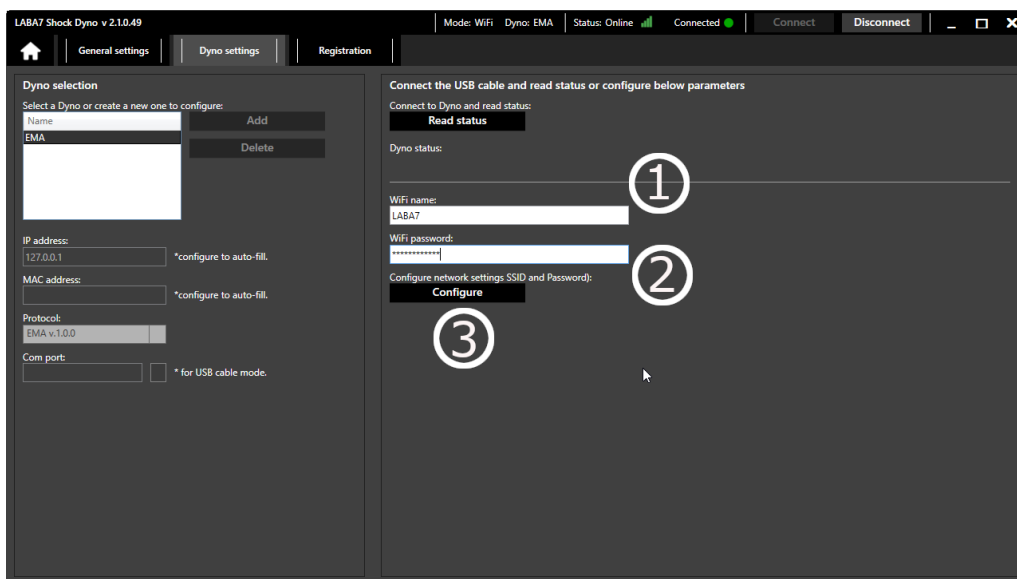

Figure 15
3. Enter Wi-Fi name (Figure 15 – Step 1).
4. Enter Wi-Fi password (Figure 15 – Step 2).
5. Click on Configure button (Figure 15 – Step 3).